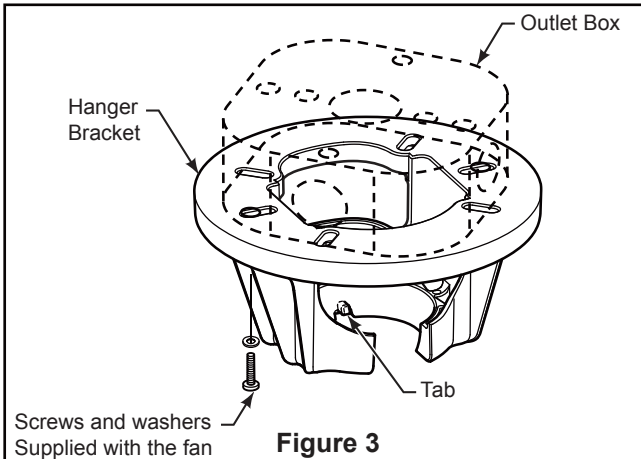
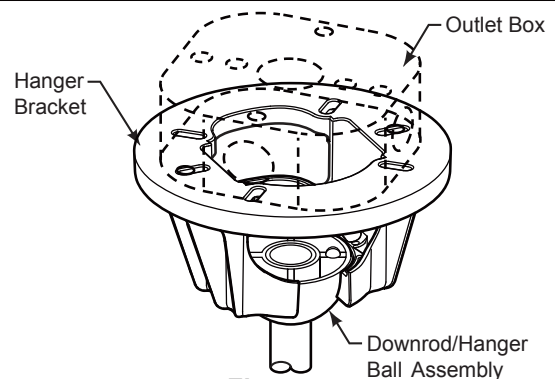

Figure 3
Figure 4
- ☐ 3. Loosen the two set screws and locking nuts in the downrod support of the motor assembly. Route the wires through the downrod. (Figure 3)
4. Slide downrod into the downrod support on top of the motor. Install the clevis pin by aligning the holes in the downrod support with holes in the downrod. Secure clevis pin with hairpin clip. Install and tighten the two set screws with nuts in the downrod support. Securely tighten the set screws with screwdriver then fully tighten the nuts by hex wrench. (Figure 4)
- ☐ 1. Securely attach the hanger bracket to the outlet box using the #8-32 outlet box screws and washers supplied with the fan. (Figure 3)
NOTE: Outlet box screws pass through slotted holes of the hanger bracket. (Figure 3)
- ☐ 3. Carefully lift the fan and seat the downrod/hanger ball assembly on the hanger bracket that was just attached to the outlet box. (Figure 4) Be sure the groove in the ball is lined up with tab on the hanger bracket. (Figure 3)
- ☐ 2. Slide the receiver into the hanger bracket before wiring as shown in figure 3.
- ☐ **3. Connect wires using connectors as shown in Figure 4.** Connect the 2 pin connectors from the motor assembly to the 2 pin connectors from receiver, connect the 3 pin connectors from the motor assembly to the 3 pin connectors from receiver.